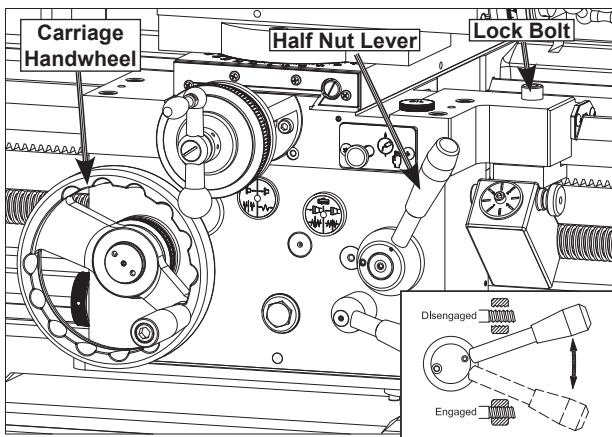

Figure 10. Carriage controls set for moving the carriage.
4. To further balance the load, loosen the carriage lock bolt, disengage the half nut lever, then use the carriage handwheel to move the carriage next to the tailstock. (Figure 10)